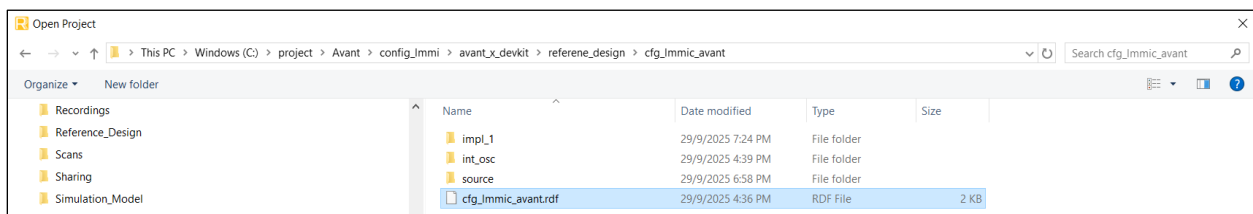

Figure 6.2. Open Project File
2. Click **File > Open Project**. From the project database, navigate to the `cfg_lmmic_avant` folder of the reference design project and open the Lattice Radiant project file `cfg_lmmic_avant.rdf` as shown in Figure 6.2.